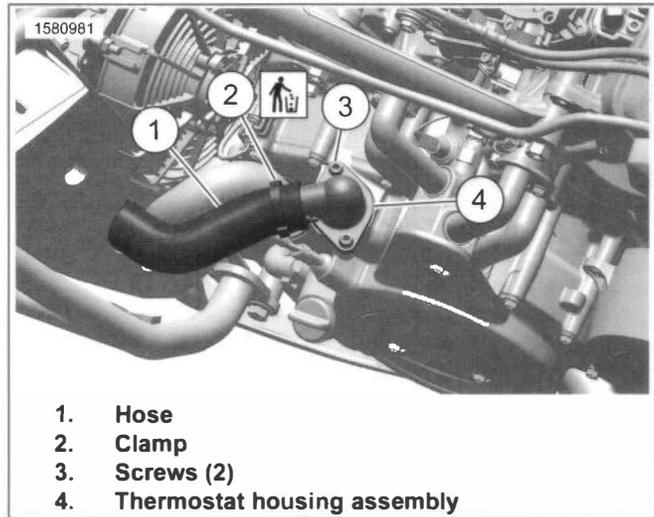
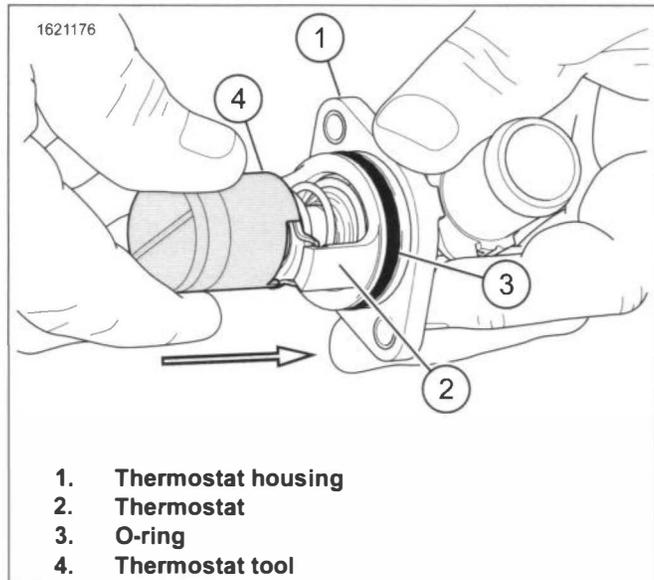

Figure 7-9. Thermostat Housing Assembly
Figure 7-10. Thermostat Tool
1. See Figure 7-9. Remove thermostat housing.
- a. Remove and discard clamp (2). Remove hose (1) from thermostat housing (4).
- b. Remove screws (3).
2. See Figure 7-10. Remove thermostat from housing assembly.
- a. Push thermostat tool (4) up slightly and rotate thermostat (2), remove from thermostat housing (1).
1. See Figure 7-10. Install thermostat.
- a. Push thermostat tool (4) up slightly and rotate thermostat (2) to install in thermostat housing (1).
- b. Inspect o-ring (3), replace as required.
2. See Figure 7-9. Install thermostat housing.
- a. Position thermostat housing (4).
- b. Install screws (3). Tighten.